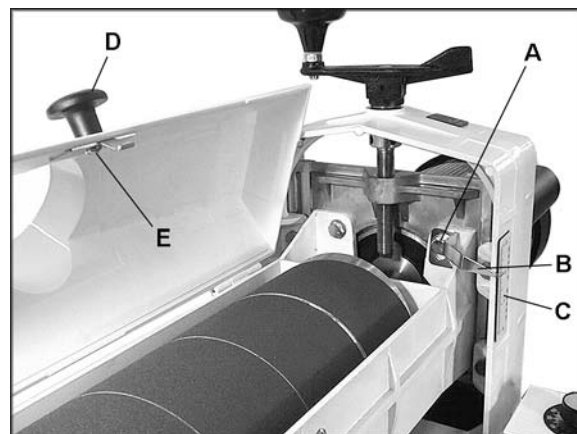

Figure 21
1. Loosen screw (A, Figure 21) with a 9/16" wrench sufficiently to allow indicator needle (B) to be turned to depth gauge scale (C).
3. At this drum position, the depth gauge indicator needle (B) should align with the zero mark of the scale. If it does not, loosen screw (A) and raise or lower indicator needle to align with zero on the scale.
4. Re-tighten screw (A).
The dust cover latch prevents the dust cover from accidentally opening. To release the latch, press inward on the dust cover knob (D, Figure 21). This will cause the dust cover center to flex and release the latch. Note that the dust cover latch can be adjusted in or out by loosening the screw (E, Figure 21).